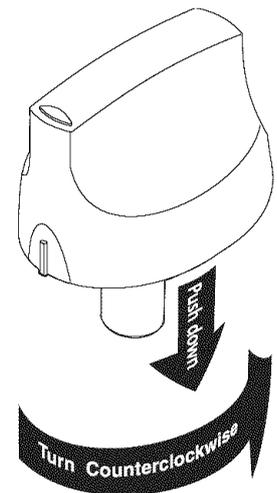

Figure 2
2. Push the left rear surface control knob in and turn **counterclockwise** out of the OFF position (See Figure 2).
Cookware should have flat bottoms that make good contact with the entire surface heating element. Check for flatness by rotating a ruler across the bottom of the cookware (See Figure 1). Be sure to follow the recommendations for using cookware as shown in Figure 2.